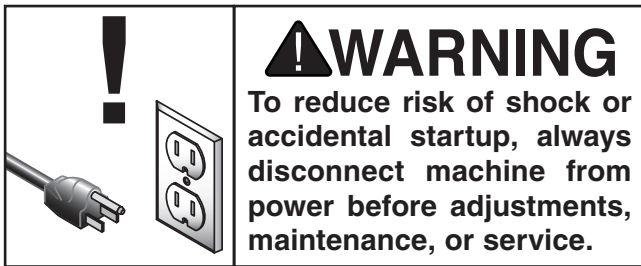

Figure 24. Installing sanding disc.
2. Center sticky half of sandpaper disc on upper half of aluminum disc and press sandpaper disc onto surface (see **Figure 24**).